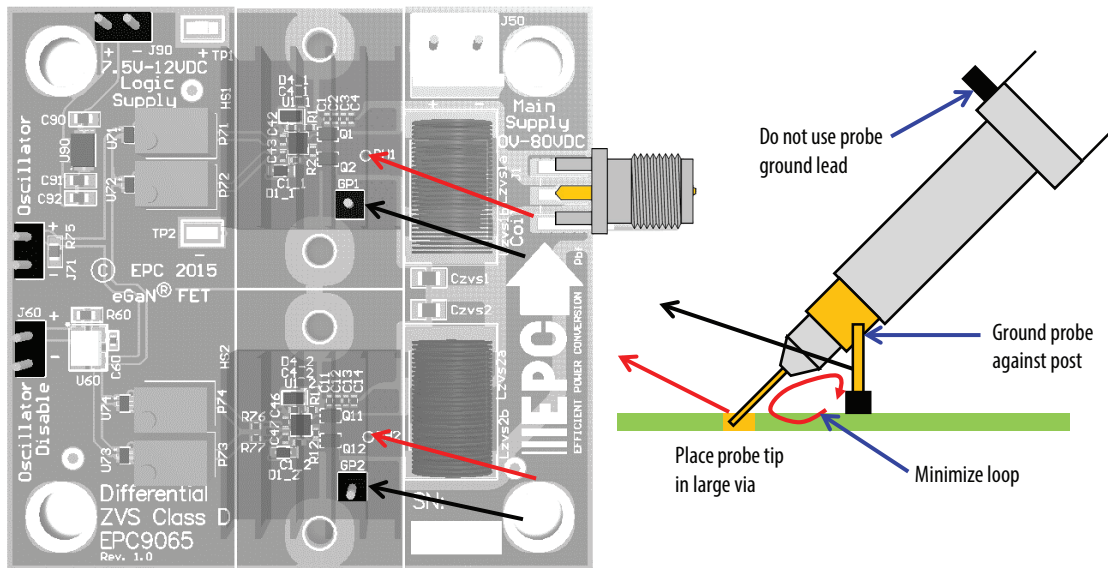

Figure 3: Proper measurement of the switch nodes using the hole and ground post
2. Connect a LOW capacitance oscilloscope probe to the probe-hole of the half-bridge to be set and lean it against the ground post as shown in figure 3.
**NOTE.** When measuring the high frequency content switch-node (Source Coil Voltage), care must be taken to avoid long ground leads. An oscilloscope probe connection (preferred method) has been built into the board to simplify the measurement of the Source Coil Voltage (shown in figure 3).